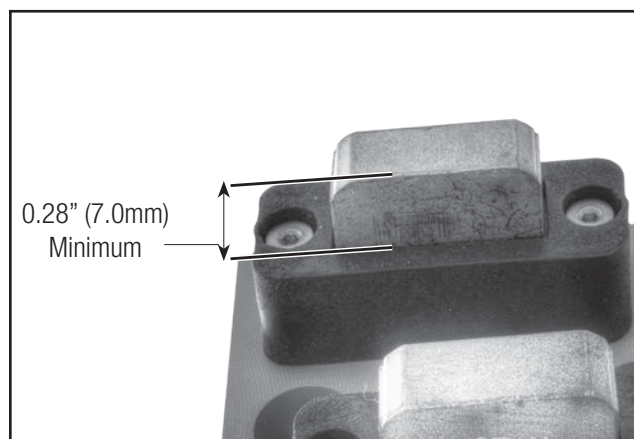

Figure 8-1 Brush Height Measurement
1. Inspect the electrical brushes on the collector for wear. If the distance from the bottom of the brush holder to the brush surface is less than 7.0mm (0.28in), replace the brush. See **Figure 8-1**.